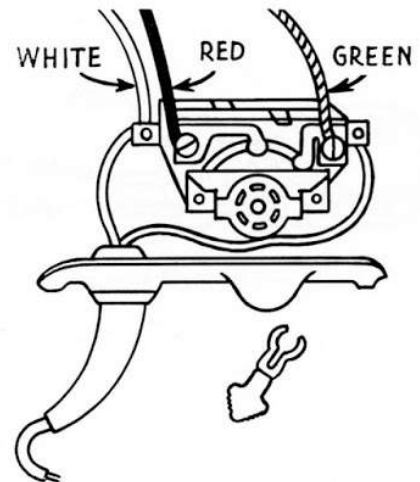

FIG. 25—Wiring diagram of a two-speed switch
2. The two-speed switch and wiring are shown in Figure 25.